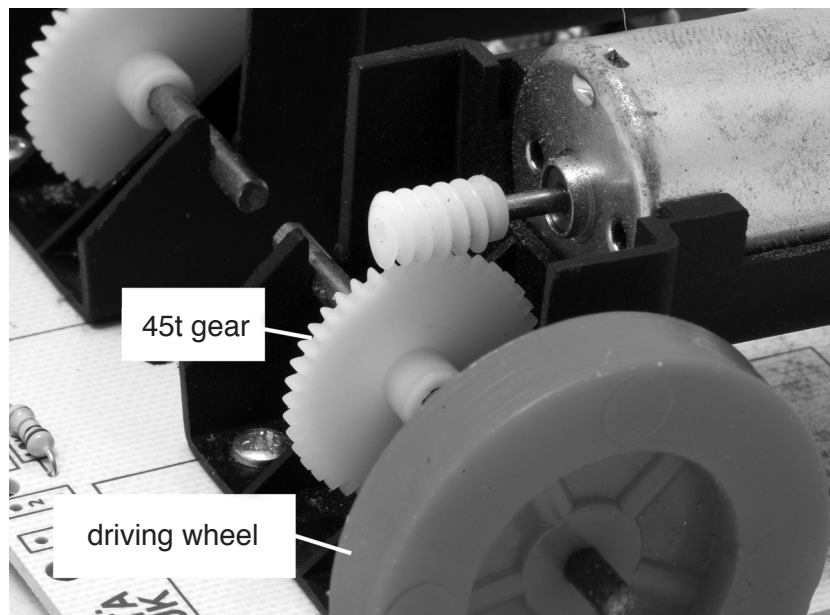

Fig. 9
- 9 Fig. 9 shows part of a small robot vehicle which is driven by two motors, one on either side.